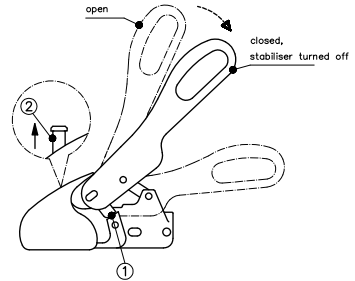

Fig. 4: Coupling
Please use the handles on the trailer and not the operating lever of the WS 3000 when positioning the trailer. Place the open ball coupling on the vehicle's coupling ball (Fig. 4). The weight of the supported load (plus possible additional pressure) results in the drawbar closing the ball coupling automatically and the side securing plates (1) are positioned parallel to the securing surfaces on the housing (Fig. 4). The green pin in the control display (2) is visible if the coupling ball is located in the coupling housing (Fig. 4).
The trailer should be parked with the ball coupling closed if not being used for any greater length of time. To do so, raise the open operating lever (Fig. 4), simultaneously pull the ball socket forwards (mobile element – Fig. 8) or press the **SAFETY BALL** into the ball chamber and close the operating lever slowly.